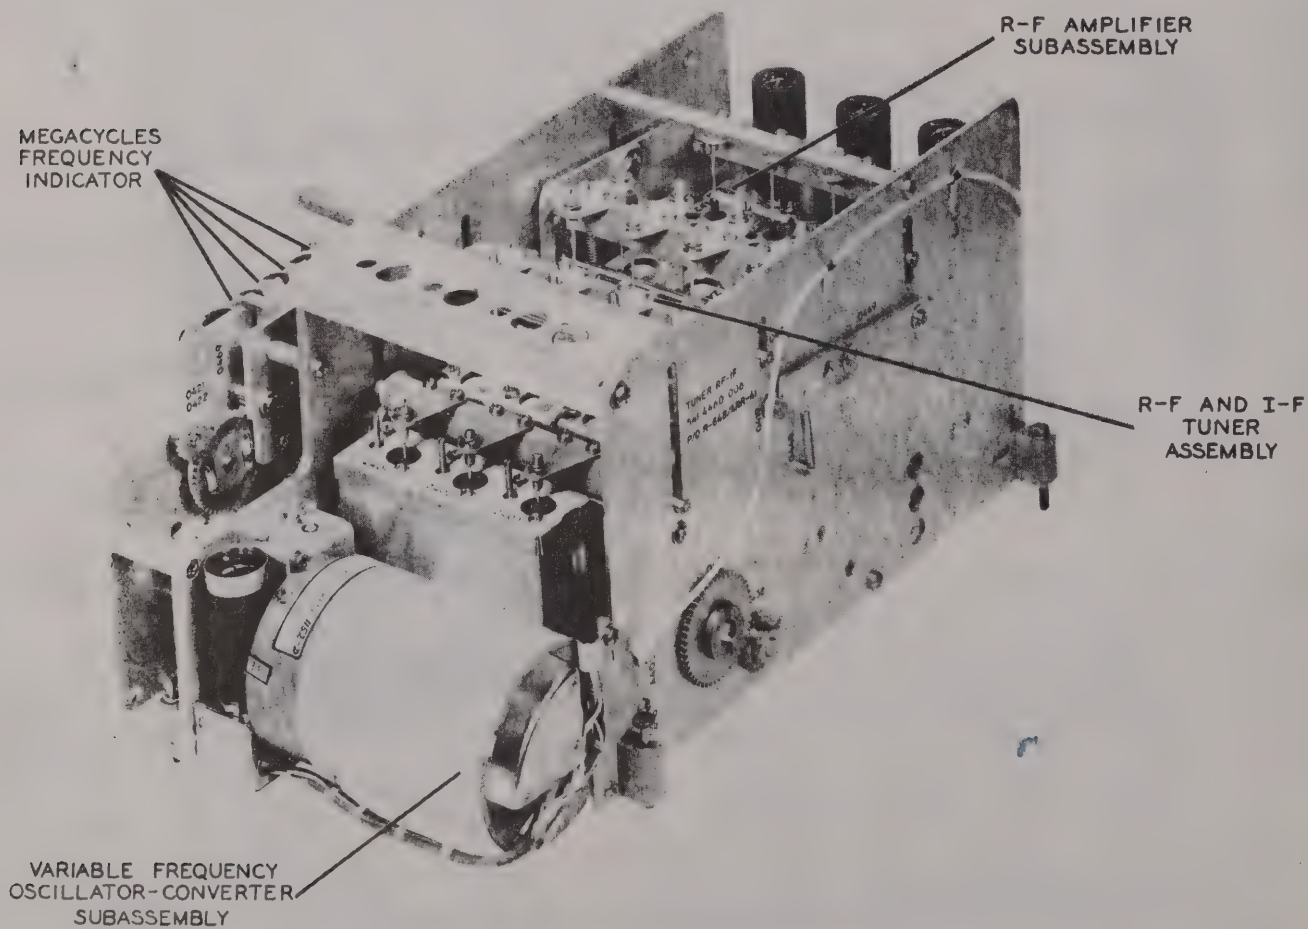

Figure 1-5. R-F and I-F Tuner Assembly, Rear Oblique View
**1-21. R-F AND I-F TUNER ASSEMBLY.** (See figure 1-5.) The r-f and i-f tuner assembly is located directly behind the front panel of the R-648/ARR-41 component. It is the largest of the plug-in assemblies and consists of the main assembly and two removable subassemblies. The main assembly consists of r-f and variable i-f resonant circuits and the associated slug racks. Tuning is accomplished by varying the inductance of these resonant circuits.